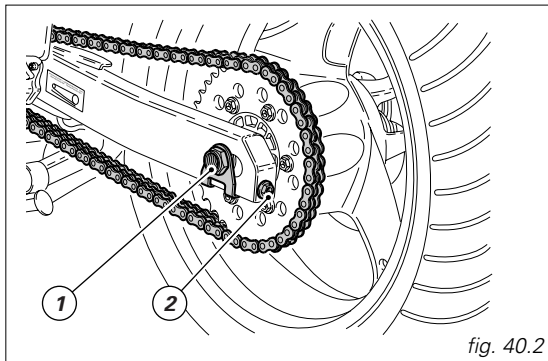

fig. 40.2
Slacken the nut (1, fig. 40.2) of the wheel spindle, tighten (turn clockwise) or slacken the screw (2) on either side of the swingarm equally to increase or reduce chain tension. If you are slackening the chain, you will have to push the wheel forward.